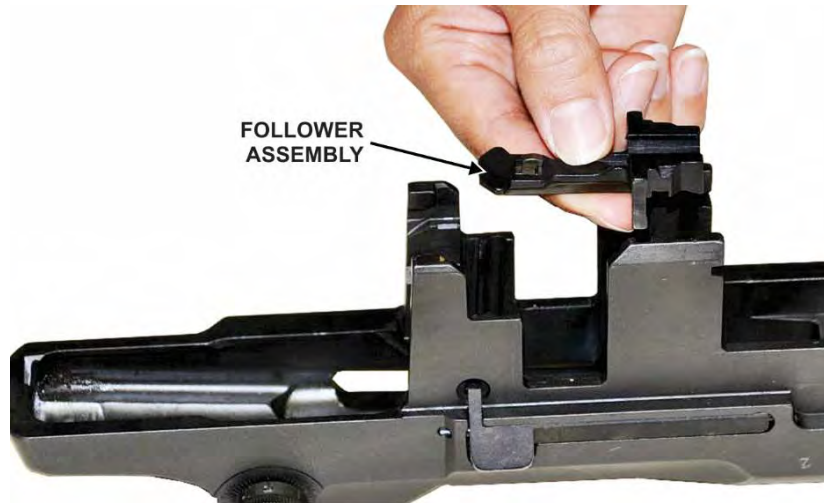

Figure 19. Follower assembly removal
- 4) Reach down into the receiver and lift the follower assembly (fig 19).